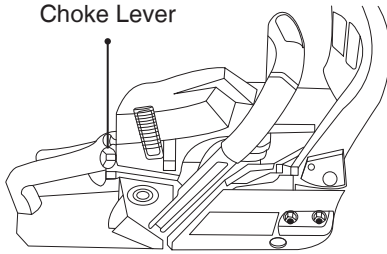

Fig. 7
1. Pull the choke lever out to the full extent (Fig. 7)